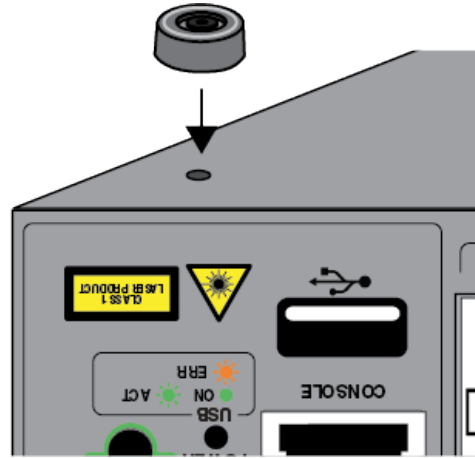

Figure 19. Placing the Bumper Foot on a Base Corner Hole
3. Place the bumper foot with rivet housing onto one of the holes in the base of the switch. Refer to Figure 19.